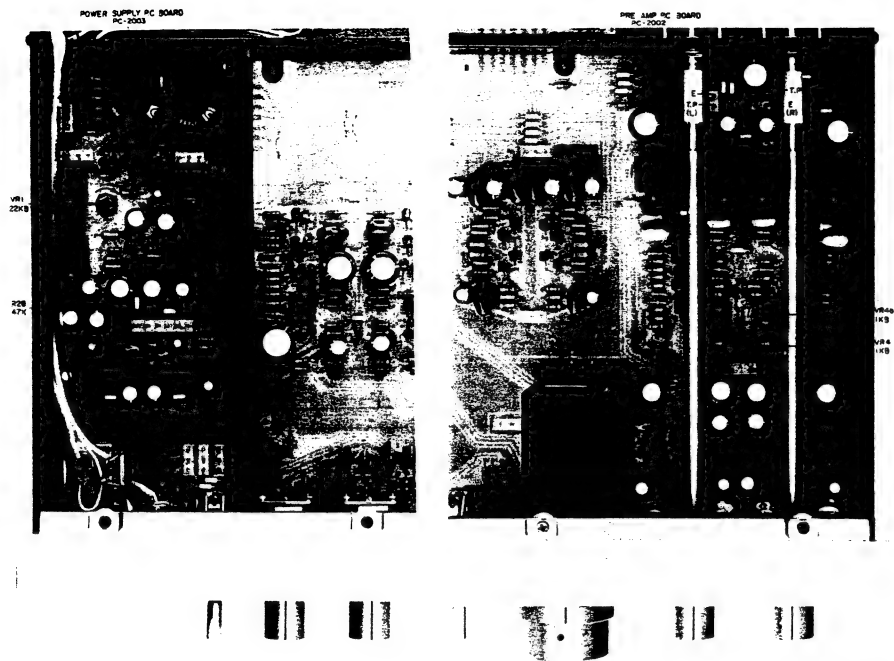

Fig. 22 Adjustment Point
1. MODEL PS-200C (Refer to Fig. 22)